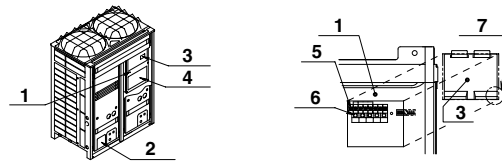
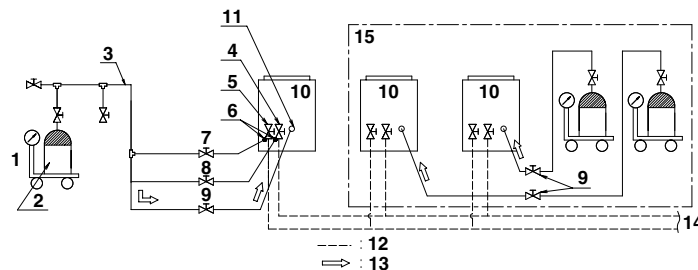

fig. 32
fig. 33
- Perform the refrigerant charging operation following [Refrigerant charging operation procedure] as shown below, and charge the remaining refrigerant of the “additional charging amount”. For performing the refrigerant charging operation the push button on the PC-board (A1P) of outdoor unit (In case of multi system master unit) are use. (See the figure 32) In addition, the refrigerant are charged from the refrigerant charge port via the valve A. (See the figure 33)
The refrigerant will be charged about 22kg in one hour at outdoor temp. 30°C DB (6kg at 0°C DB). If you need to speedup in case of multi system, connect the refrigerant tanks to each outdoor unit as shown in the figure 33.
(1) Open the liquid and gas side shutoff valves (The valve A~C must be closed. The valve A~C means the valves in the figure 33.)